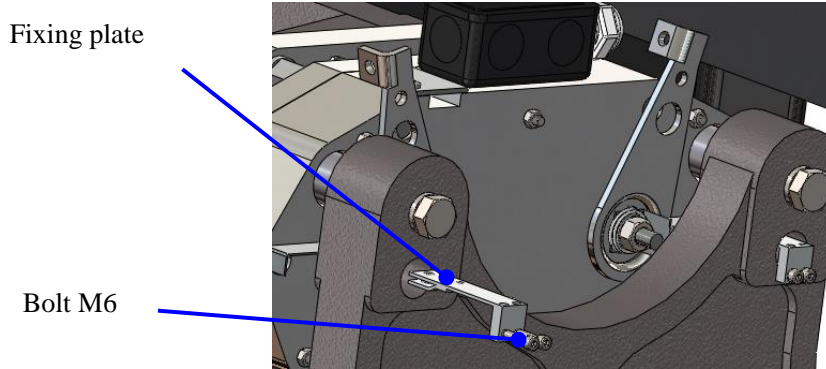

Figure 34: Remove the Fixing plate
1. Loose the bolt M6 using hex wrench 5mm, then remove the fixing plate. (Let's take the right side brake for example show in the following picture. See Figure 34.